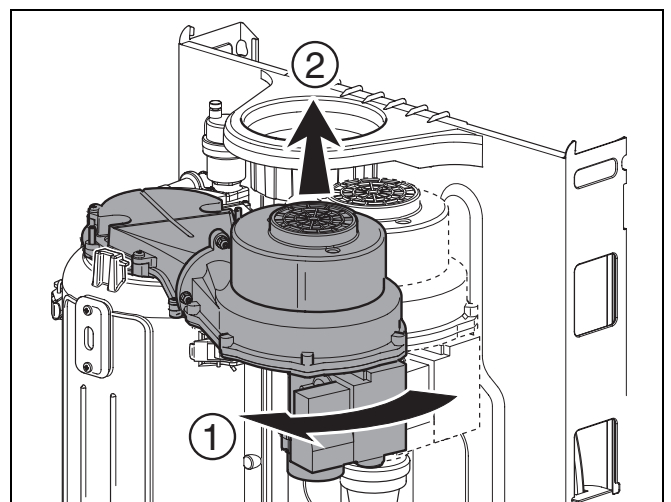

fig. 62 Remove gas air unit
- By turning the unit a quarter turn (fig. 62, step 1), the unit can be removed by lifting it out of the boiler (fig. 62, step 2).